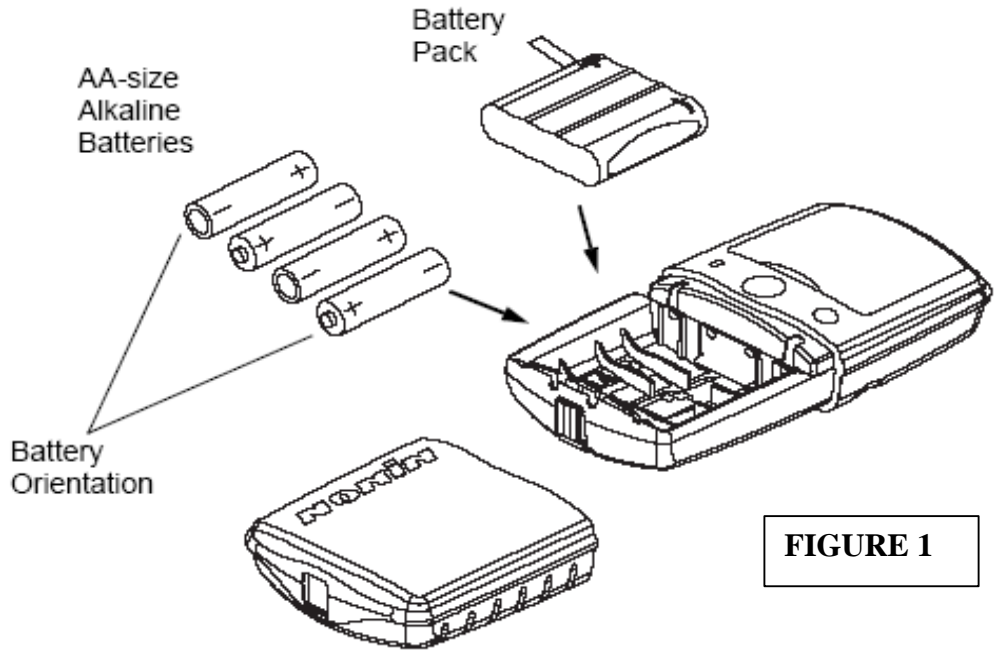

FIGURE 1
- b) Verify correct polarity of the batteries (**FIGURE 1**)
- b) Verify integrity of all batteries, verify battery polarity, is 'Battery Low' indicator illuminated (**FIGURE 1**)